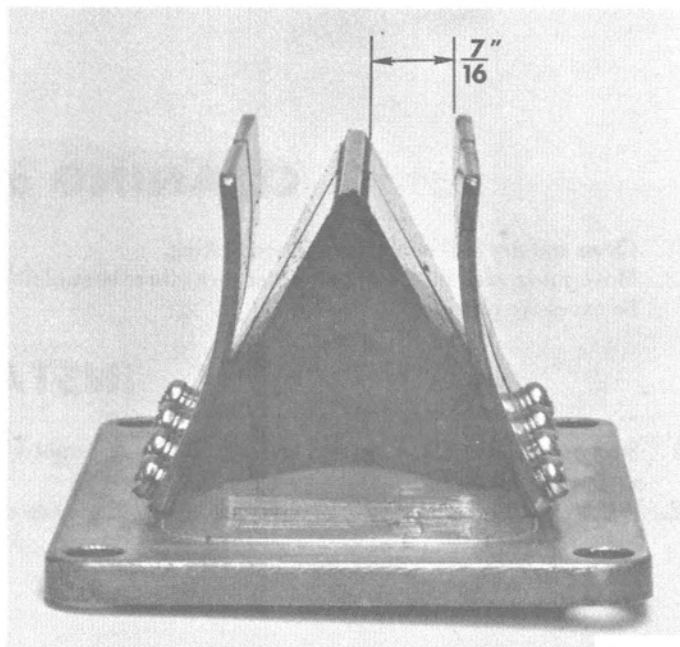

Figure 3. Reed Stop Opening 7/16"
5. Check that reed stop setting is 7/16". (Figure 3)